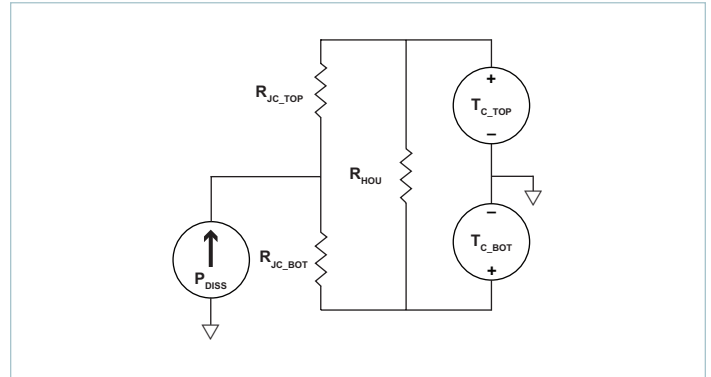
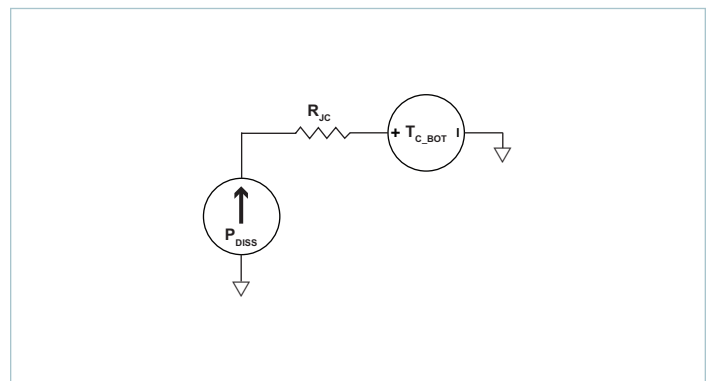

Figure 23 — Double sided cooling VIA thermal model
Figure 24 — Single-sided cooling VIA thermal model
surface, the bottom surface or both. The extent to which these two surfaces are cooled is a key component for determining the maximum power that can be processed by a VIA, as can be seen from specified thermal operating area on Page 5. Since the VIA has a maximum internal temperature rating, it is necessary to estimate this internal temperature based on a system-level thermal solution. To this purpose, it is helpful to simplify the thermal solution into a roughly equivalent circuit where power dissipation is modeled as a current source, isothermal surface temperatures are represented as voltage sources and the thermal resistances are represented as resistors. Figure 23 shows the "thermal circuit" for the VIA module.
- Single side cooling: the model of Figure 23 can be simplified by calculating the parallel resistor network and using one simple thermal resistance number and the internal power dissipation curves; an example for bottom side cooling only is shown in Figure 24.